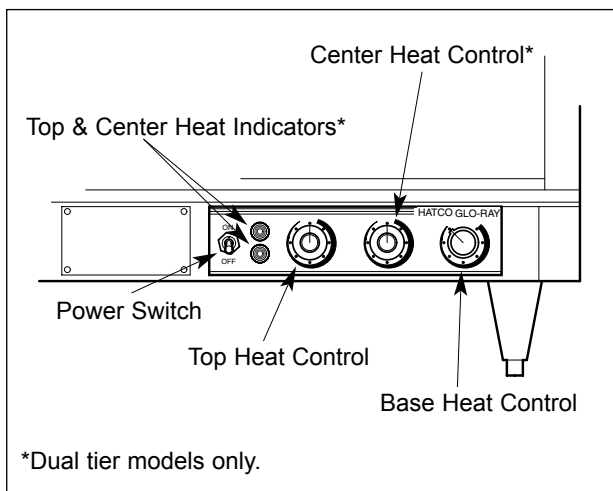

Figure 11. Control Panel – Non-Humidified Models
2. Turn the Power Switch to the ON position. See Figure 11.